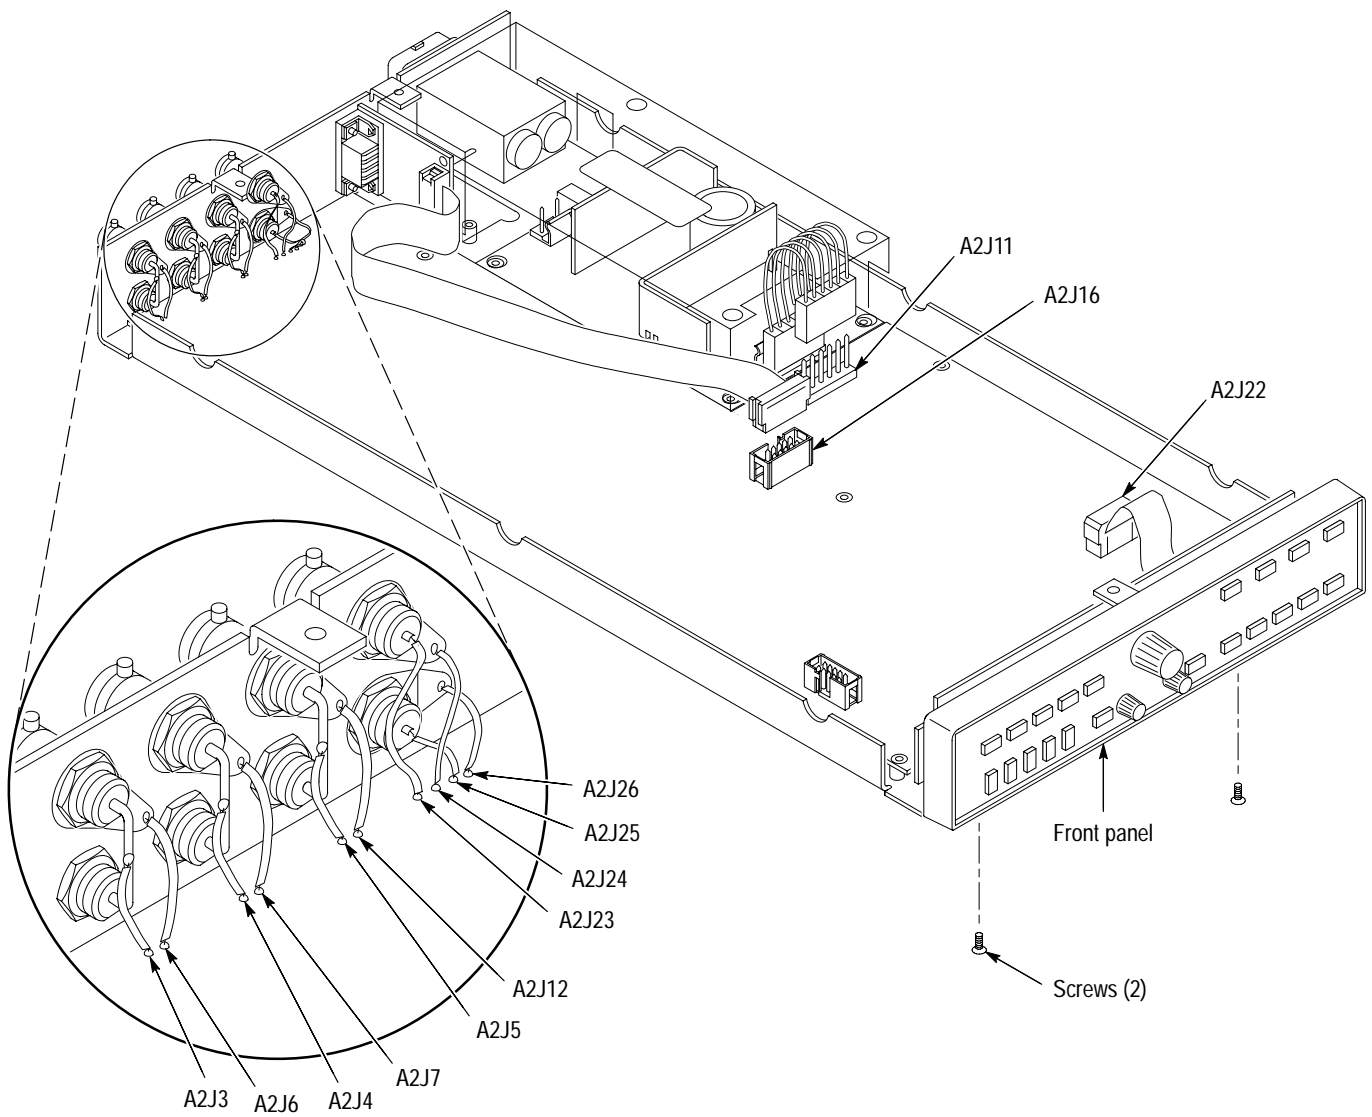

Figure 6-7: Main board BNC connectors
5. Carefully unsolder the flat cables, connected to the BNC connectors on the rear panel, from the Main board. See Figure 6-7.